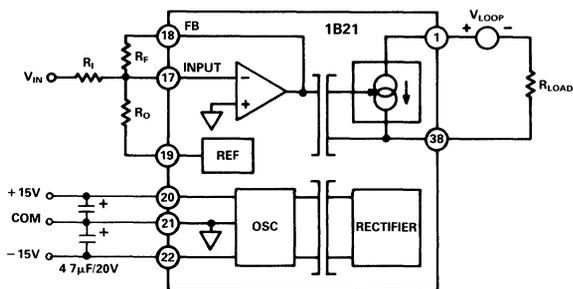

Figure 1. Basic Interconnections
Input Configurations: The 1B21 has been designed with a flexible input stage for a variety of input and output ranges. The basic interconnection for setting gain and offset is shown in Figure 1. The output of the internal amplifier is constrained to 0 to -5V, which maps into 0 to 20mA across the isolation barrier. Thus to create a 4mA offset at the output, the input amplifier has to be offset by 1V.
TC Considerations of External Resistors: The specifications for gain and offset temperature coefficient (TC) for the 1B21 exclude the effects of external components. The total gain TC for the circuit in Figure 1 is:
Functionally, the V/I converter consists of four basic sections: input conditioning, modulator/demodulator, isolated loop supply and current source (Figure 1). The input is pin programmable for 0-5V or 0-10V inputs and 0-20mA or 4-20mA outputs using an internal resistor network. It can also be set by an external resistor to accept 0-1V to 0-10V voltage inputs. Transformer coupling provides 1500V rms galvanic isolation between the inputs and the current loop. Nonlinearity is an excellent $\pm 0.05\%$ max.